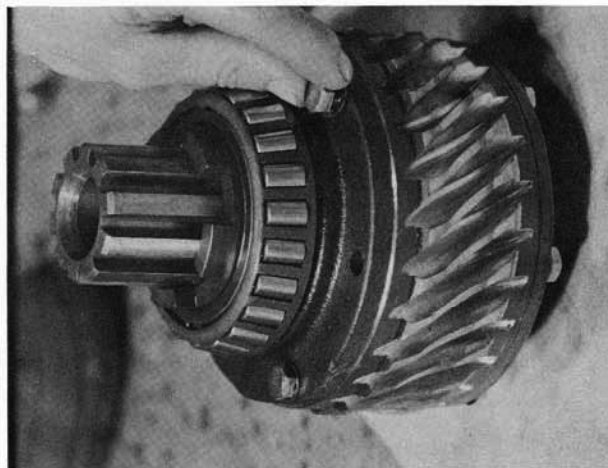

Figure 33
10. Bolt down the Clutch Housing as in Figure 33, using three Hex Head Cap Screws and three Shakeproof Lockwashers. Check to see that the gear moves freely, and has slight end play--about .010. If not, more shims are needed. If additional shims are not needed, complete bolting down, using three more Hex Head Cap Screws, and three more Shakeproof Lockwashers.